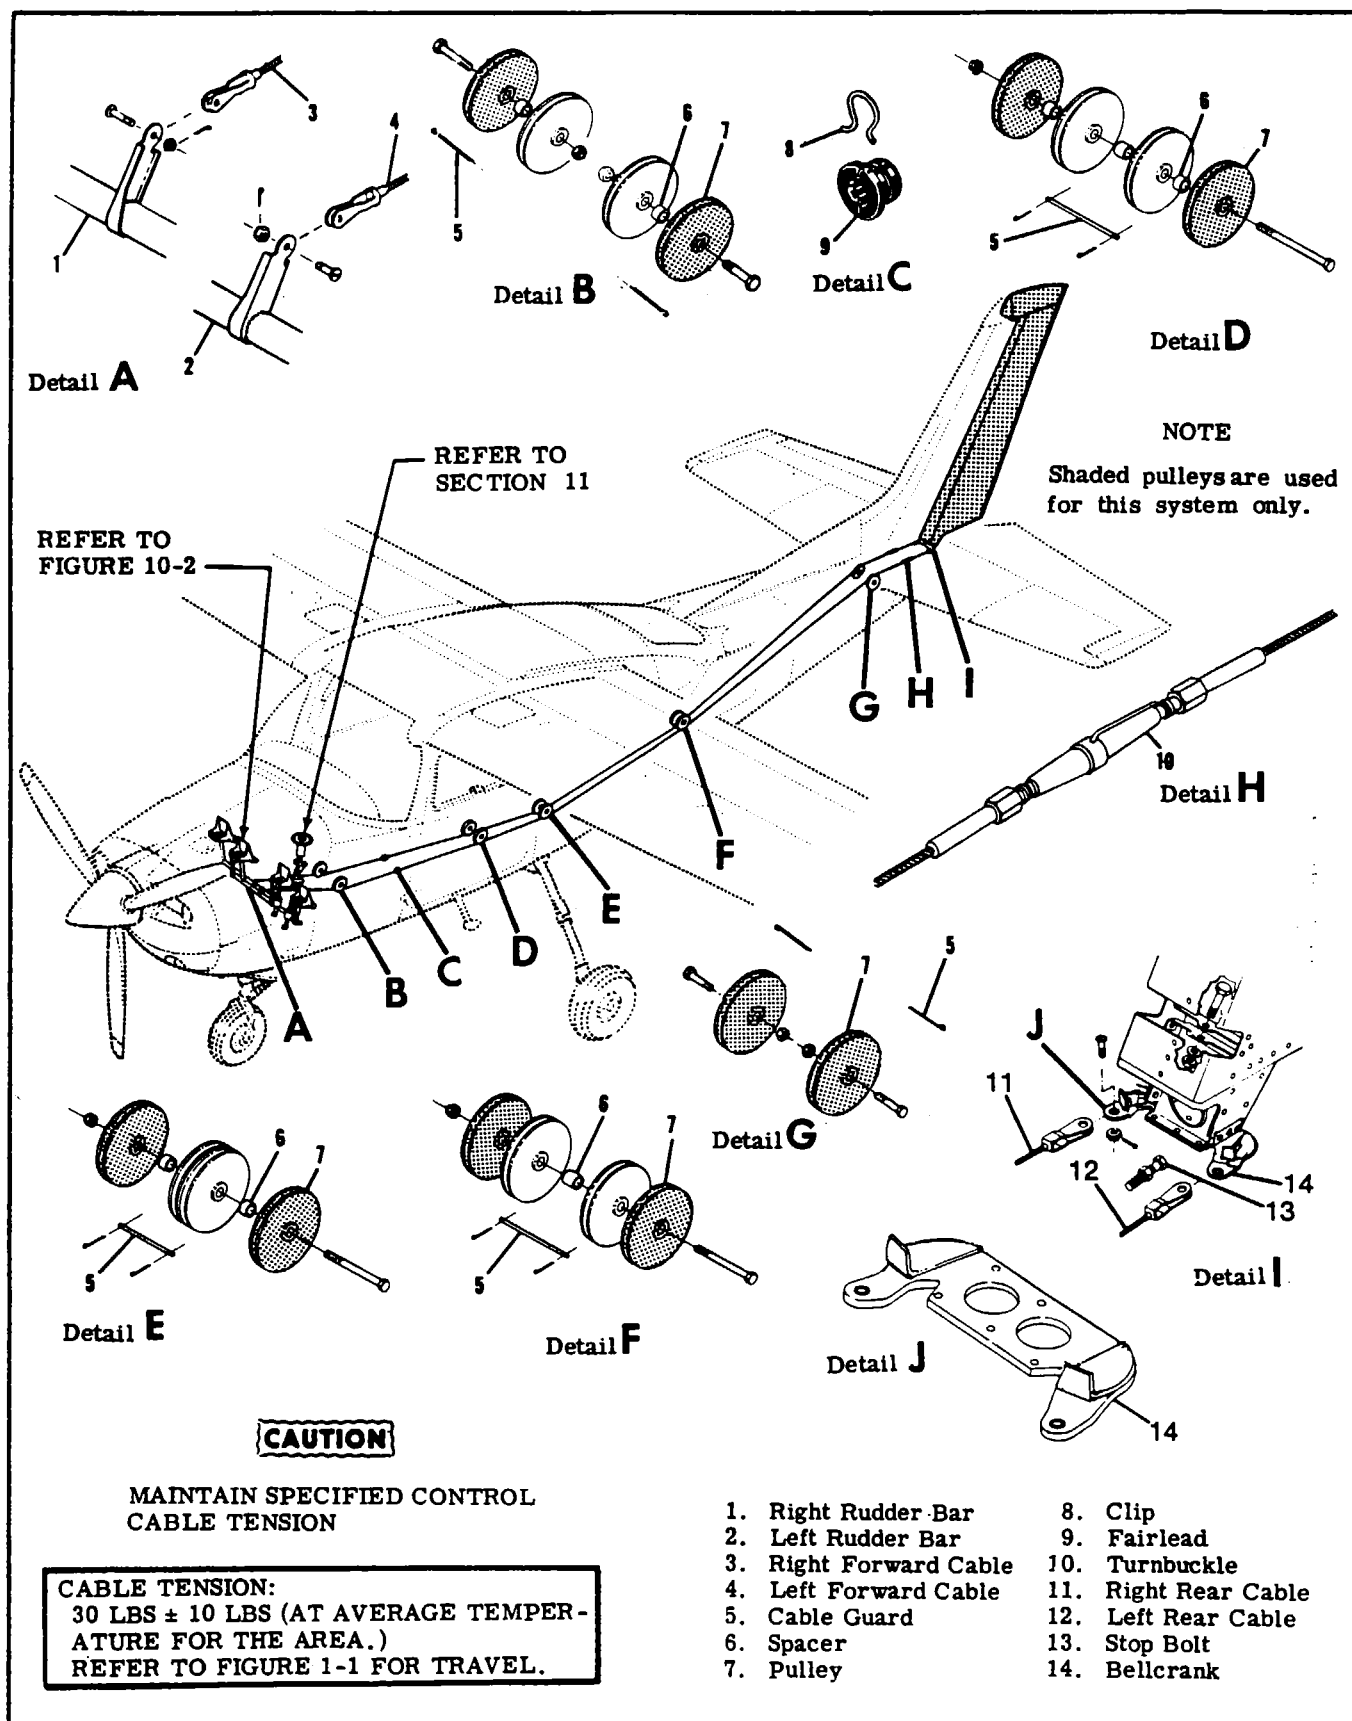
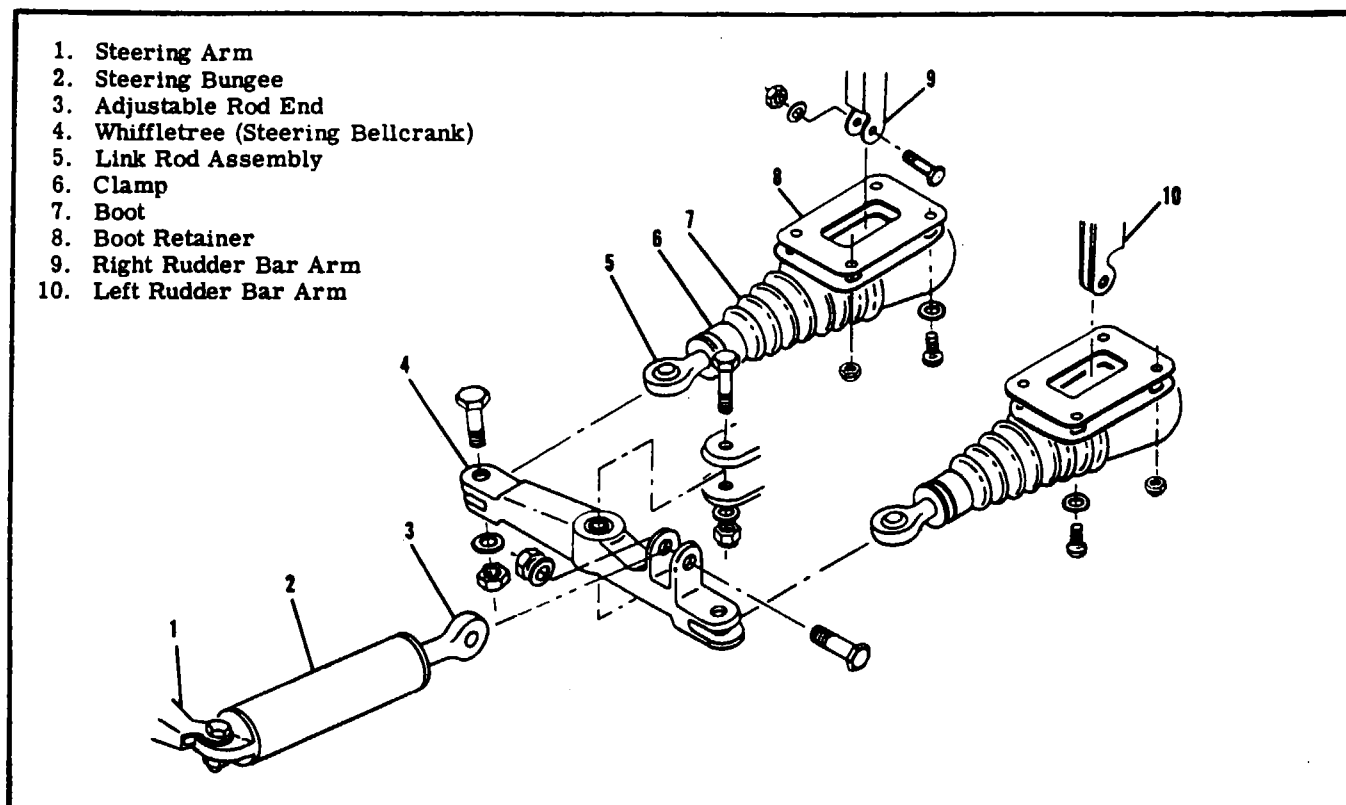

Figure 10-1. Rudder Control System
Figure 10-3. Nose Gear Steering Installation
10-1. RUDDER CONTROL SYSTEM. (Refer to figure 10-1.)
- b. Disconnect brake master cylinders (18) and parking brake cables at pilot's rudder pedals.
- c. Remove rudder pedals (2) and brake links (5).
- d. Disconnect stowable rudder pedal controls (10).
- e. Remove fairing from either side of vertical fin, remove safety wire and relieve cable tension by loosening turnbuckles (index 10, figure 10-1).
- g. Disconnect rudder trim bungee from rudder bar arm (16).
- h. (Refer to figure 10-3.) Disconnect whiffletree link rod assemblies (5) at rudder bar arms (9 and 10).
- c. Remove fairing from either side of vertical fin, remove turnbuckles (index 10, figure 10-1.)
- d. Disconnect cables (4 and 6) from rudder bellcrank (3).
- e. With rudder supported, remove all hinge bolts (2) and using care, lift rudder free of vertical fin.
10-9. CABLES AND PULLEYS. (Refer to figure 10-1.)
- a. Remove fairing from either side of vertical fin, remove safety wire and relieve cable tension at turnbuckles (index 10, figure 10-1).
- e. (Refer to figure 10-3.) Disconnect steering bungee adjustable rod end (3) from whiffletree (4).
- j. Adjust turnbuckles (index 10, figure 10-1) to streamline rudder with 30 ± 10 lbs tension on cables.
- l. Adjust travel stop bolts (index 13, figure 10-1) to obtain degree of travel specified in figure 1-1. Figure 10-5 illustrates correct travel and one method of checking.
- m. Adjust length of rod end (3) to align with whiffletree (4) and install bolt. DO NOT PRELOAD BUNGEE.